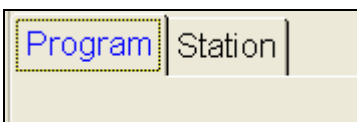

Figure 16.1.6A
- You will automatically start in the **Program** tab section of **Controller Schedule** (Figure 16.1.6A).